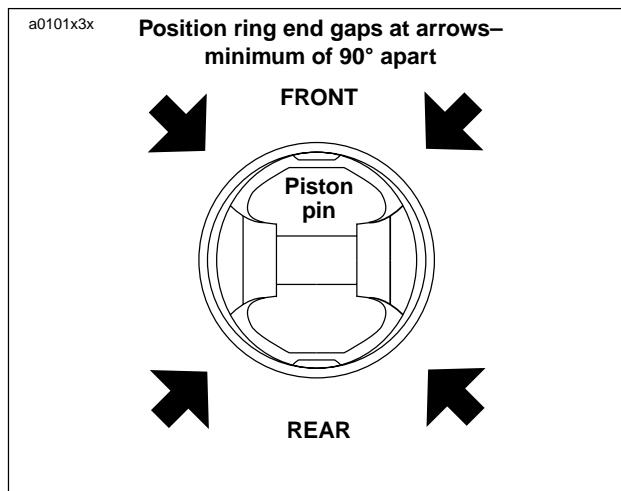

**Figure 3-106. Installing Piston Pin Circlip**
4. See Figure 3-106. Install **new** piston pin retaining rings (1) using PISTON PIN RETAINING RING INSTALLER (2) (Part No. HD-34623C). Place **new** retaining ring on tool with gap pointing up.